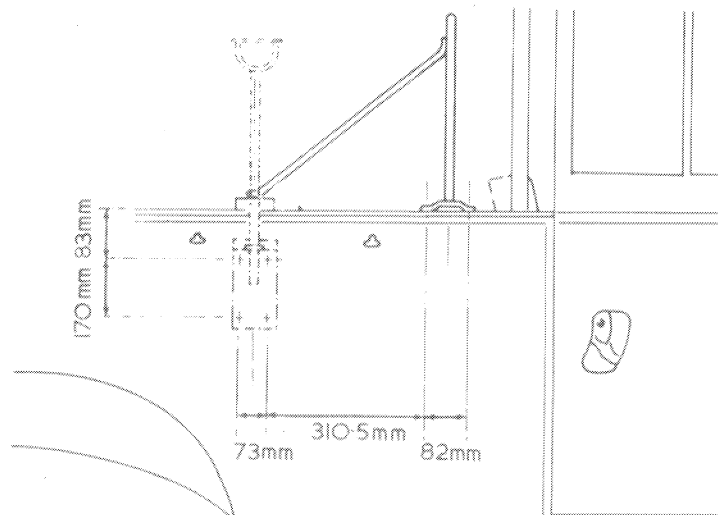

Fig. 5 Modifications to vehicle sides
5. GS vehicles only: The sides of the vehicles require drilling as in fig. 5 to accept the equipment rack and, in $\frac{3}{4}$ ton vehicles, the antenna support bracket, shown dotted.